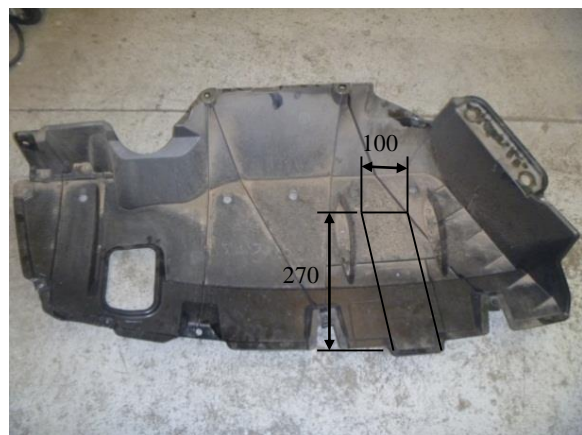

Figure 2
9. Using the Factory cut out section, cut 100mm wide and 270mm depth as shown in Figure 2. Neatly cut out, using a saw or similar device, remove all burrs.